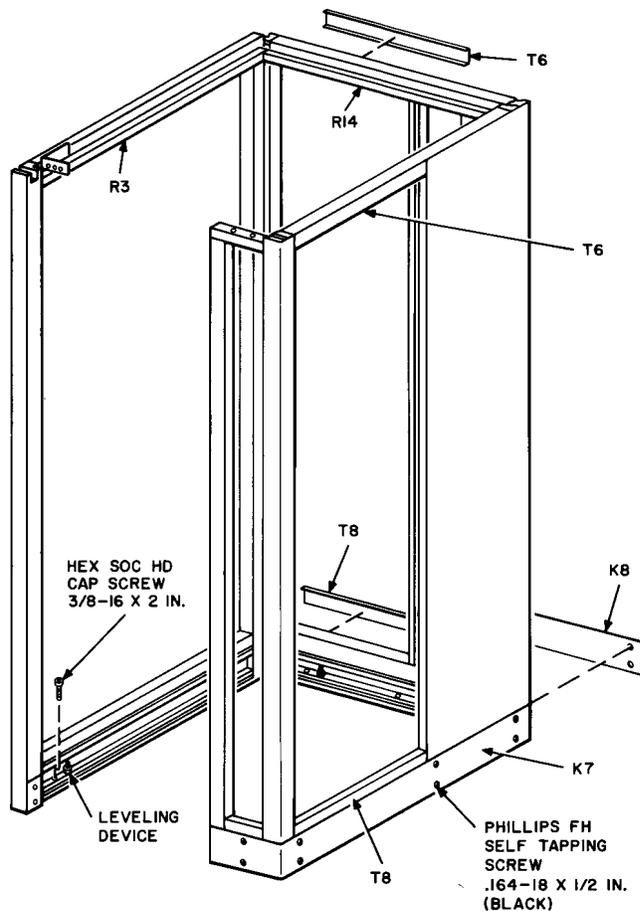

Fig. 14—Partial View of Booth
- (1) Remove and retain the following items from the right wall of previous booth (Fig. 14):
- (1) Remove and discard K8 kickplate, T6 trim strip, and T8 trim strip from outside-rear wall of both booths (Fig. 14).
- (2) Place the second List 1 booth behind the first booth and perform operations outlined in 5.05 through 5.09.
- (3) Remove R14 retaining strip from top rear-inside wall of each booth (Fig. 14).
- (4) Tie booth walls together at the top using two 1/4-20 by 1-1/2 hex socket head cap screws and at the bottom using two 1/4-20 by 3/4 hex socket head cap screws. Screws are not furnished; they must be ordered separately.